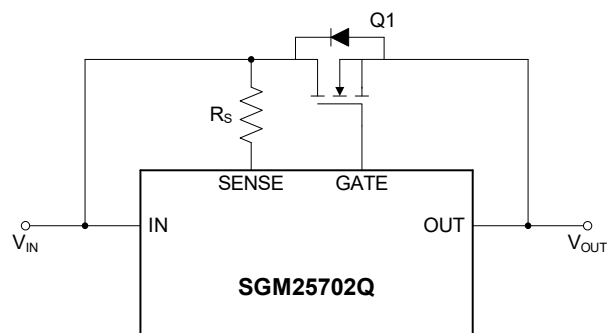

Figure 8. Setting the V_{DS} Threshold
- ♦ $R_{DS(on)}$ is the drain-to-source resistance of Q1 in Figure 8.
As described in the section Over-Current Detection and Figure 8, the appropriate SENSE pin resistor R_S can be selected based on the desired over-current threshold and $R_{DS(on)}$ of the external N-MOSFET.